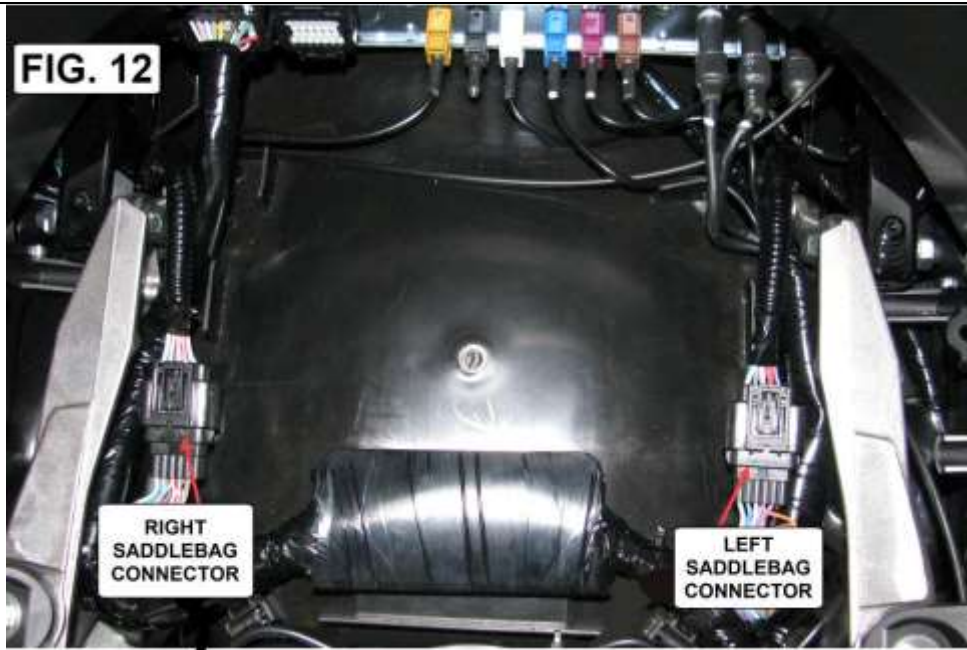
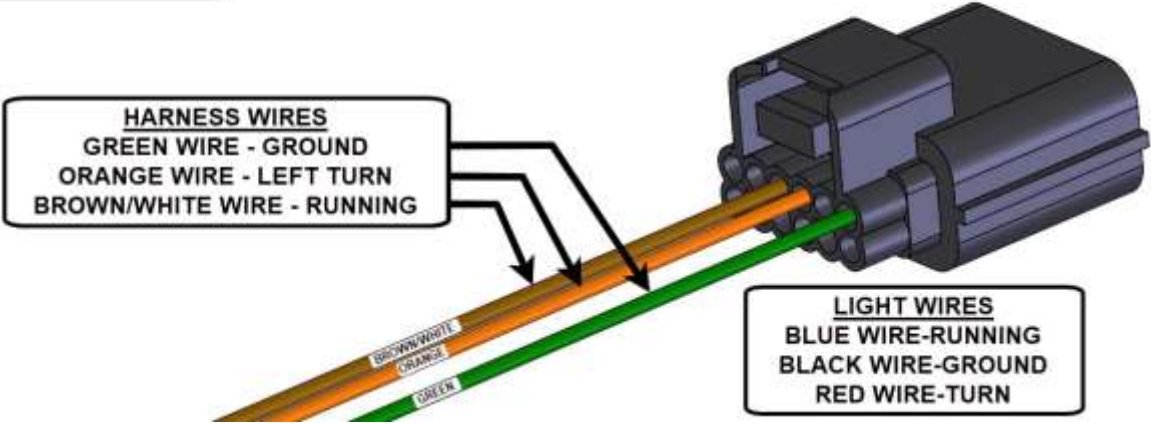

FIG. 13
FIG. 14
22. CONNECT THE WIRES FROM THE NEW LIGHTS TO THE CORRESPONDING WIRES IN THE SADDLEBAG WIRE HARNESS (FIG. 12 SHOWS CONNECTOR LOCATION) USING THE T-TAPS AND CRIMP SPADES SUPPLIED. (USE FIG. 13 FOR LEFT LIGHT. USE FIG. 14 FOR RIGHT LIGHT)